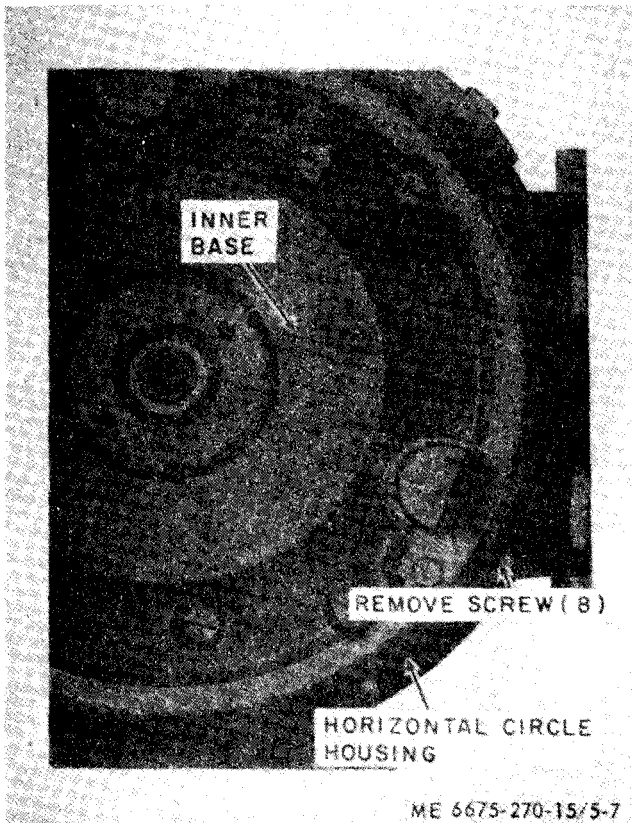

Figure 5-7. Horizontal circle housing and inner base, removal and installation.
(3) Remove the horizontal circle prism assembly (para 5-10).
(4) Refer to figure 5-7 and remove the horizontal circle housing and inner base as a unit.
(1) Refer to figure 5-7 and install the horizontal circle housing and inner base as a unit.
(2) Install the horizontal circle prism assembly (para 5-10).
(3) Install the horizontal circle clamp assembly (para 5-19).
(4) Install the tribrach assembly (para 4-30).